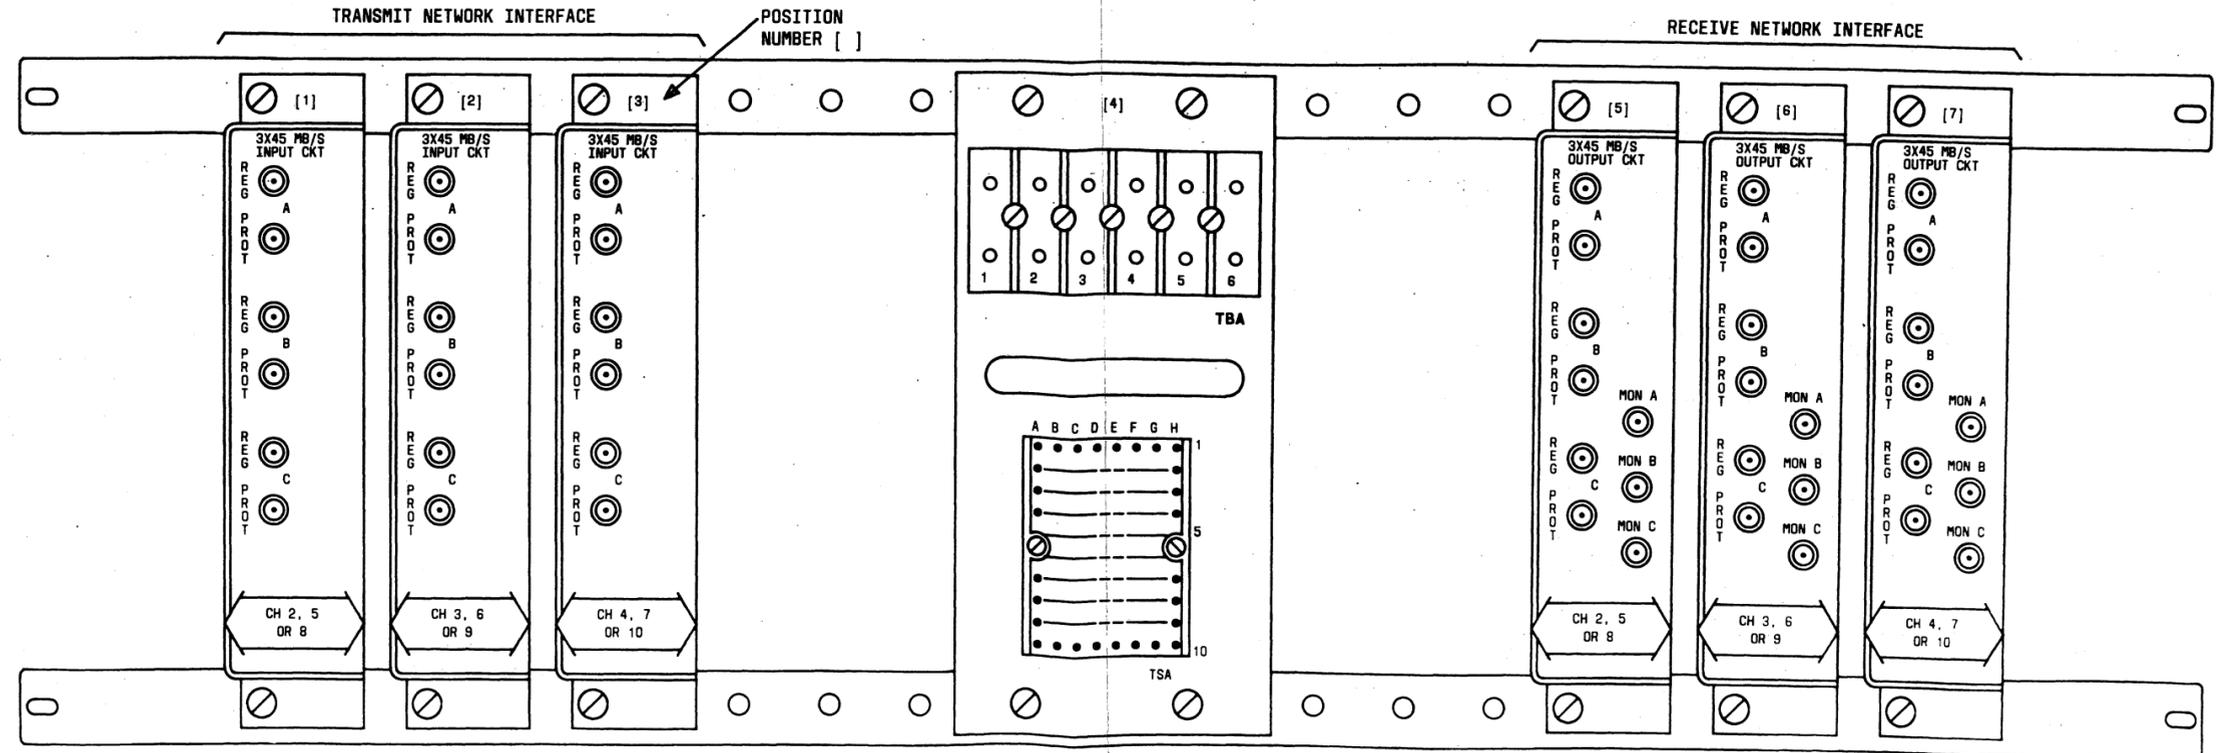

Fig. 5—Installer Interface Panel—Growth Bay
- Figure 5—Installer Interface Panel—Growth Bay